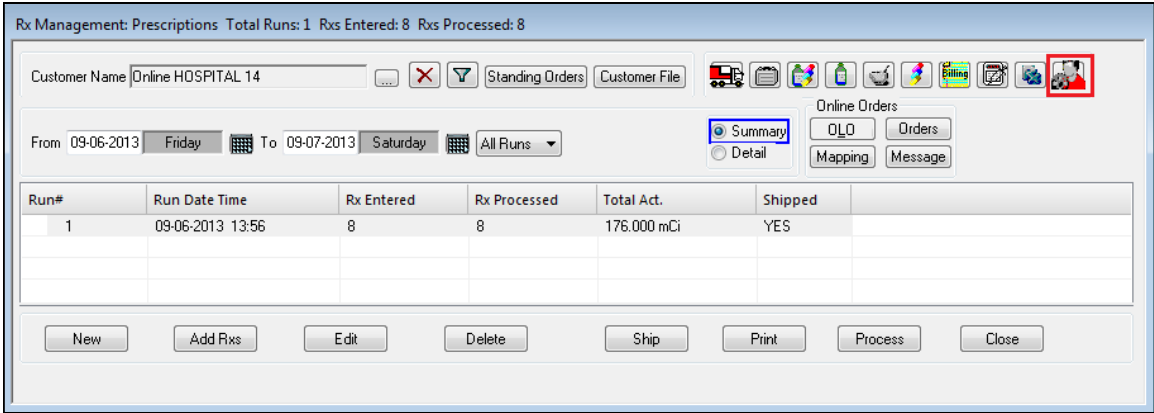

Fig 1
- a. Click on the *Dispatch Management* icon on the Rx management Screen. See Fig 1